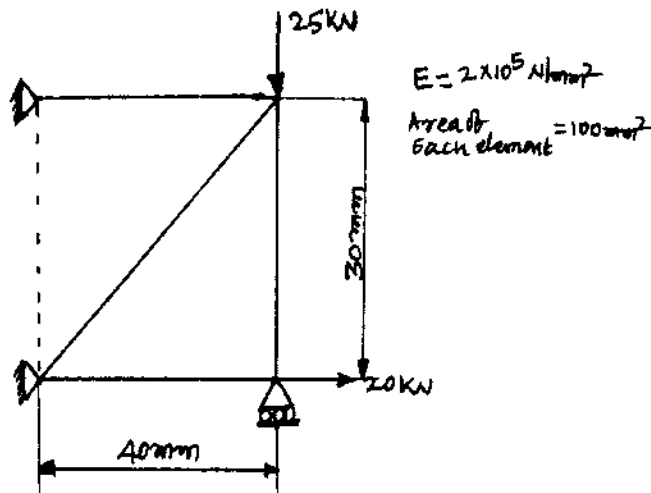

Fig. Q4
4. A four bar truss element is shown in Fig. Q4. Determine the following :